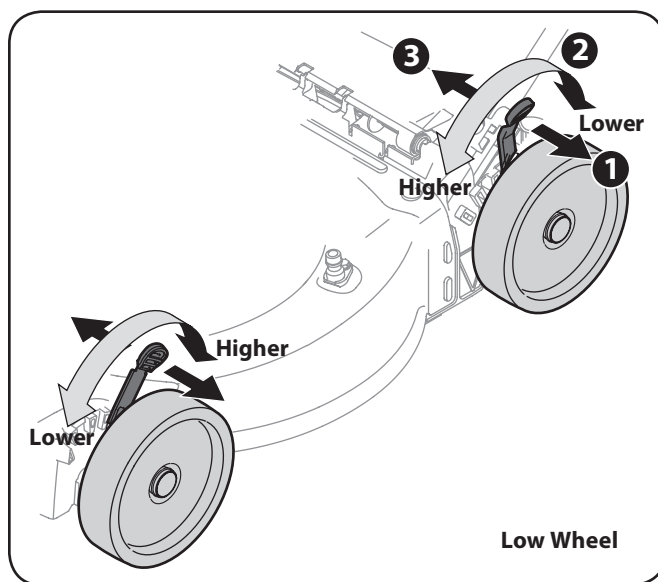
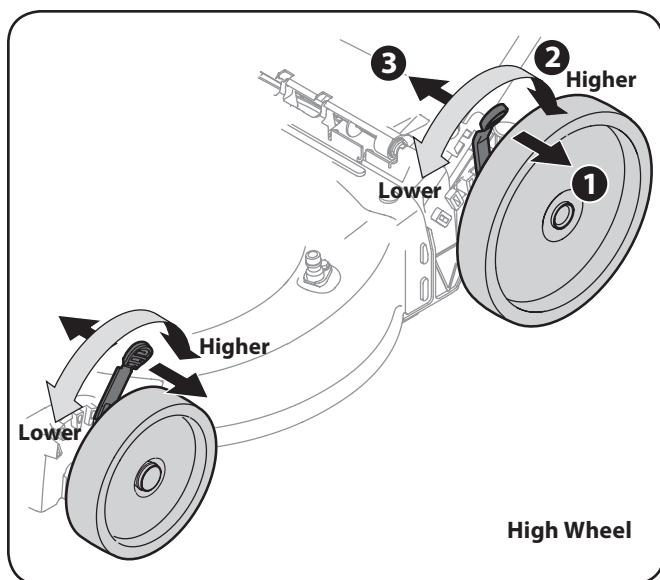

Figure 3-10
Figure 3-10A
2. Slide lever to desired position for a change in cutting height. See Figure 3-10 and Figure 3-10A.